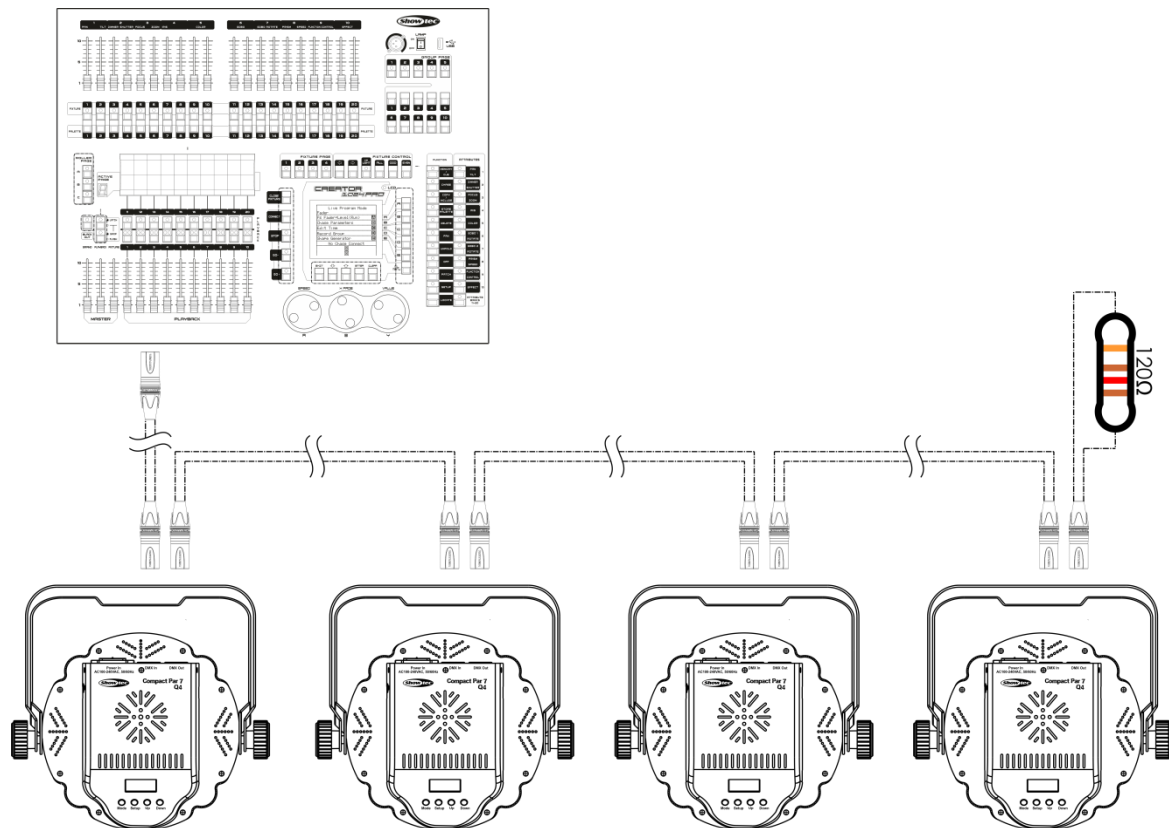

Fig. 04
- 04) Link the units as shown in Fig. 04. Connect the first unit's DMX "out" socket with the second unit's "in" socket, using a DMX-signal cable. Repeat this process to link the second, third, and fourth units.